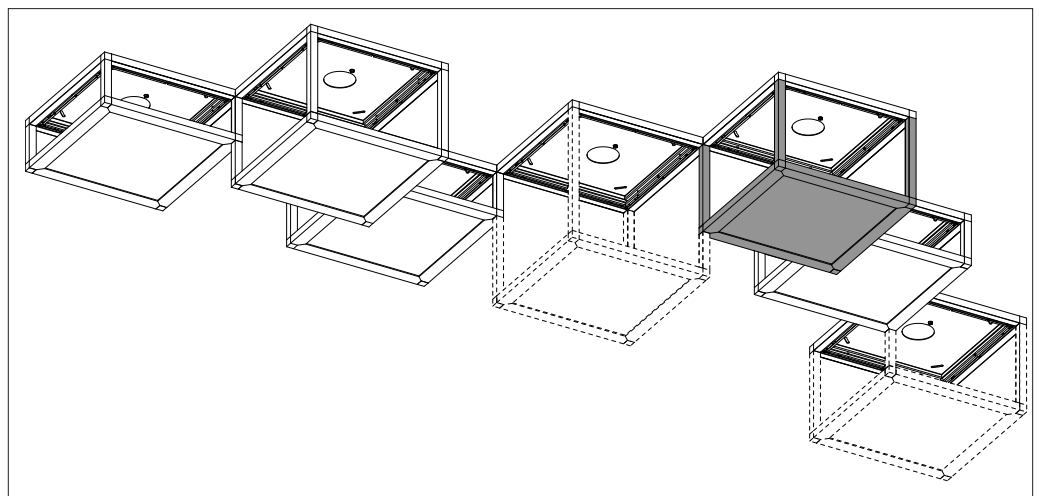

Fig.7b
- 12c. Section as part of whole assembly shown in Fig. 7b.